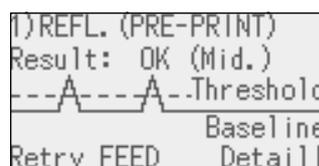

Figure 3. Calibration Results
4. The threshold voltage has now been automatically set for the selected sensor and the display will show the result. **Figure 3.**